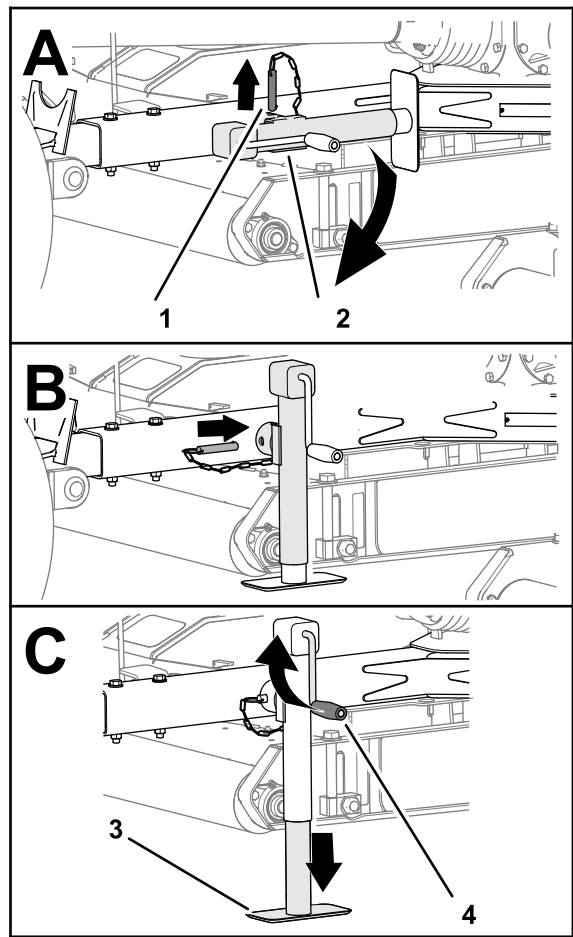

Figure 23
3. Remove the pin and rotate the tow-bar jack vertical (Figure 23).
4. Align the hole in the tow bar with the hole in the jack (Figure 23).
5. Insert the pin through the holes in the tow bar and jack (Figure 23).
2. Rotate the jack handle to fully raise the jack pad; refer to Figure 23 in Supporting the Mower with the Jack (page 16).